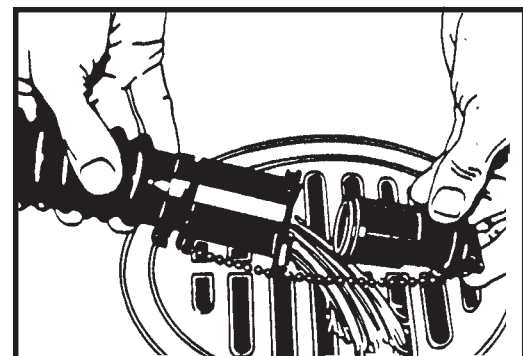

Figure 6
- e. To open the valve completely, turn the handle to the right. Pull the handle out of valve. (Figure 6)